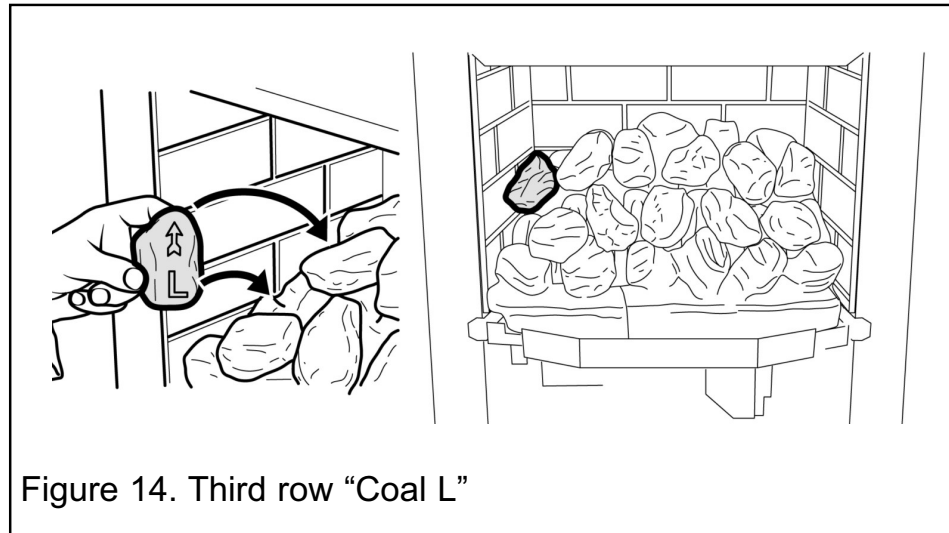

Figure 14. Third row "Coal L"
**16.** Hold coal 'L' upright with the arrow pointing to the top. Locate coal 'L' as shown in figure 14.